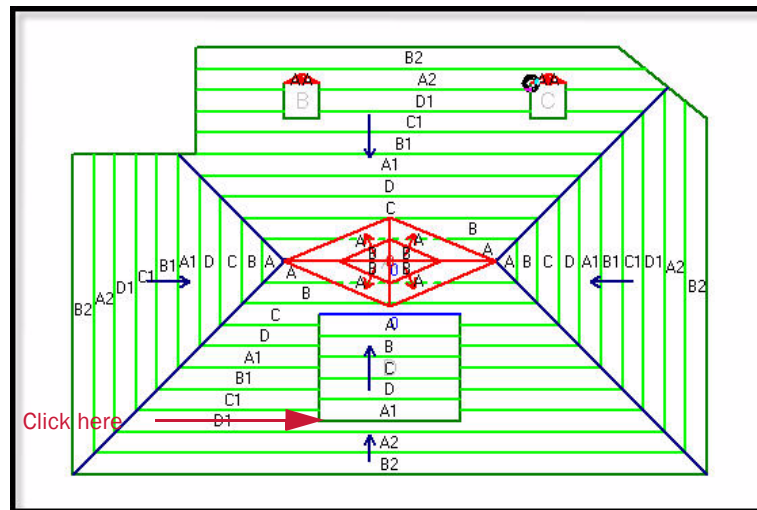

Figure 3-15 Select the bottom left corner of the interior roof
14. Place your cursor on the bottom left corner of the interior roof and click, as in Figure 3-15.